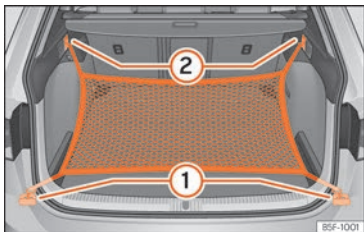

Fig. 152 In the luggage compartment: rings ① and hooks ② for securing the net bag (Leon Sportourer ST model).
- Secure the short net hooks to the fastening rings »» Fig. 152 ① »» ⚠. The bag zip should be facing upwards.
- Secure the straps in the bag hooks ②.